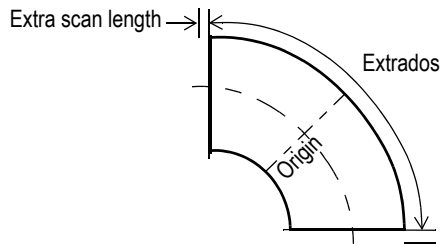

Figure 3-2 Extrados — maximum outer elbow curve length
1. Measure and record your elbow's *extrados* (maximum, outer elbow curve length on surface; see Figure 3-2 on page 27).